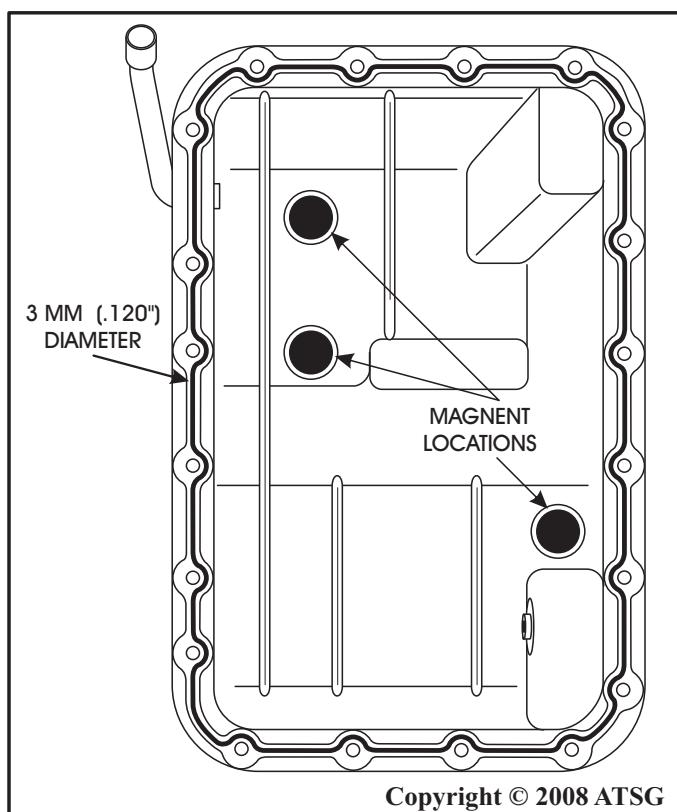

Figure 228
98. Place the magnets in the positions shown in Figure 228.
99. Apply a 3 mm (.120") bead of sealant (RTV) on the oil pan, as shown in Figure 228.